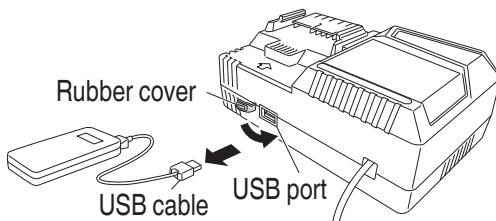

Fig. 16
(3) When charging is completed
- Unplug the power cord from the electrical outlet. (Fig. 16)